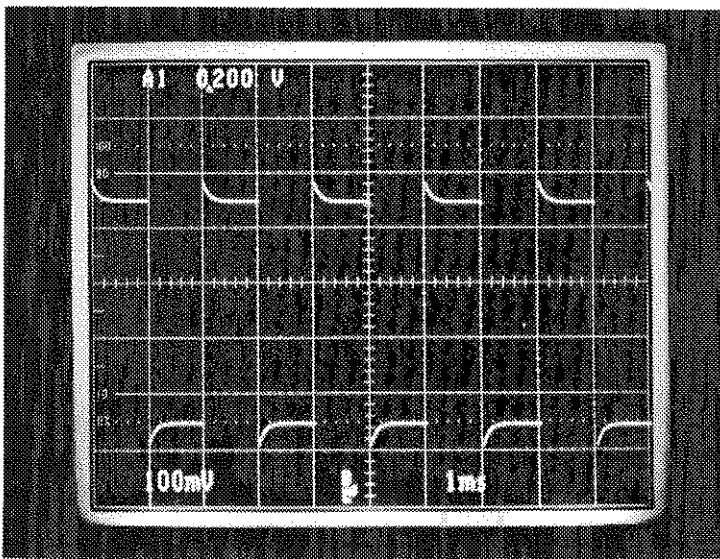

Figure 11: Photograph of a Repetitive Signal
- Step 9:** Make adjustments and repeat the test exposures until you obtain a satisfactory print. We doubled the exposure time to 2.0 seconds and doubled the development time to 60 seconds to obtain a better picture, as shown in Figure 11.